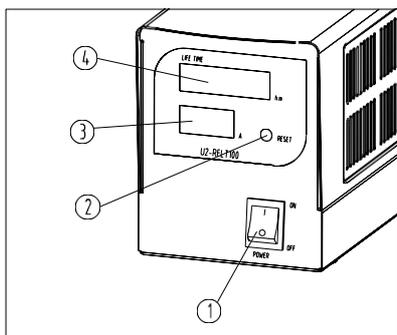

Fig. 19
- (1) After connect with main power supply, set the switch ① on mercury lamp power supply at “—” (ON), the mercury lamp is light on. It costs 5 minutes to warm up mercury lamp to be stable. (See Fig. 19)
- (2) The timer (LIFE TIME) ④ shows hour, minute, second of total 5 bits from left to right. If the number is more than 5 bits, it will show first 5 bits and hide the rest. To see the rest numbers, touch the timer reset button (RESET) ②, the rest number will be shown for 6 seconds and then return.
- (3) If change a new mercury lamp or clear the numbers of the timer (LIFE TIME) ④, press the reset button (RESET) ② for more than 5 seconds, and all the hours, minutes and seconds will clear.
- (4) The indicating range of the current (CURRENT) ③ is 0~9.99A.
- ★When the timer ④ indicates “200.00”, it means the mercury lamp had lighted on for 200 hours and it is the life limit for replacement.